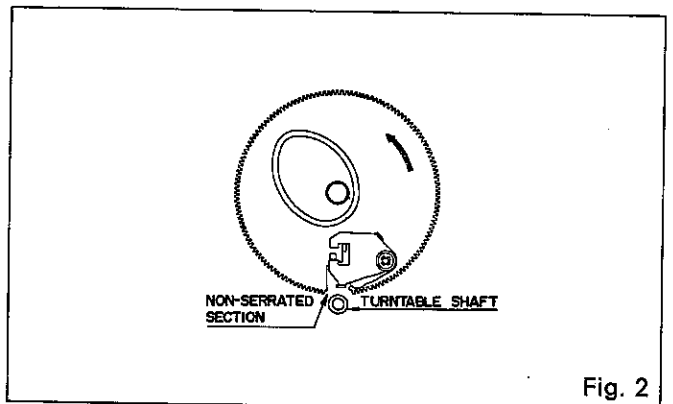

Fig. 2
- a. Turn the drive gear so that the non-serrated section faces the turntable shaft. (Fig. 2)